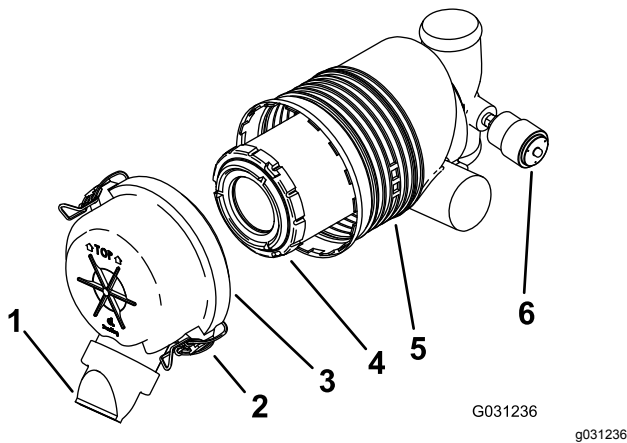

Figure 47
**Important:** Service the air-cleaner filter only when the service indicator shows red (Figure 47). Changing the air filter before it is necessary only increases the chance of dirt entering the engine when the filter is removed.
4. Release the latches on the air cleaner and pull the air-cleaner cover off the air-cleaner body (Figure 47).
1. Gently slide the filter out of the air-cleaner body (Figure 47).
4. Carefully install the filter (Figure 47).
5. Install the air-cleaner cover with the side indicated as TOP facing up and secure the latches (Figure 47).